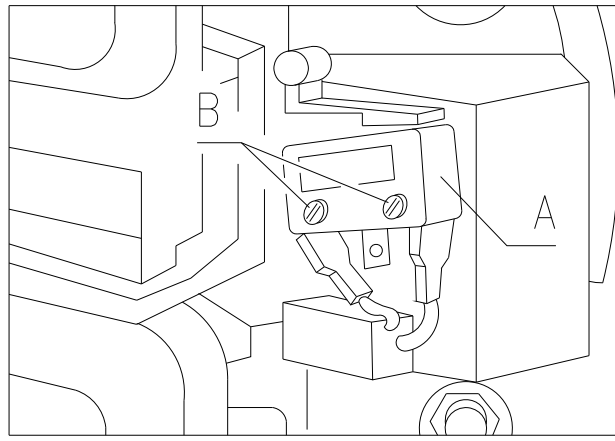

FIG. 16
8.10 REPLACING THE DELIVERY DOOR MICROSWITCHES FIG. 16